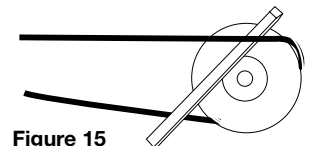

Figure 15
4. Always loosen tension enough to install belts without stretching. Do not force belt(s) see Figure 15. Forcing belts will break the cords and cause belt failure.